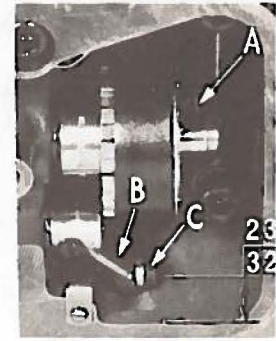

Fig. 31
Drain machine of oil and remove the bottom reservoir cover. Set the machine at zero stitches per inch. Loosen holding screw (A, Fig. 31) and move the stitch regulator plunger lever (B), so the center of screw (C) is  $\frac{23}{32}$  inch above the bottom of the base. Retighten holding screw (A) and replace the bottom reservoir cover. Now adjustment can be made to the reverse feed control lever as described earlier.